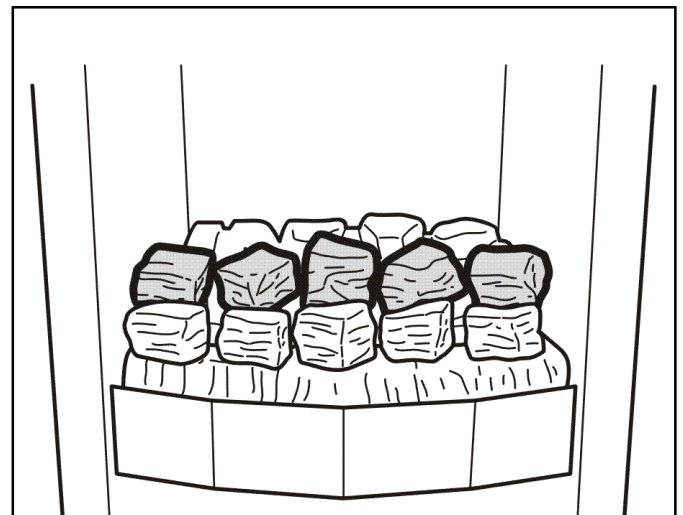

Figure 4. Second row of ceramic coals
3. Place five loose ceramic coals on top of the first row of ceramic coals. These should be evenly spaced. Rest them on the ledges above the slots in the base coal (See figure 4).